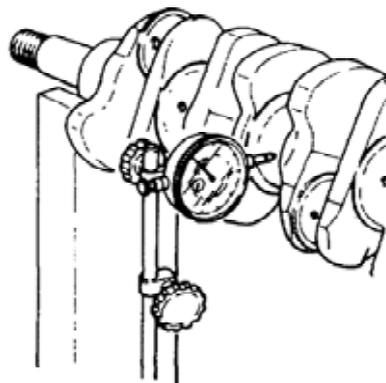

Figure 25 Measuring the Crankshaft Run-out
- n.** Check the crankshaft for bend or run-out using a dial indicator positioned on the centre main bearing journal with the crankshaft cradled between V-blocks (Figure 25). The crankshaft should be supported on the main bearing journals at each end. Ensure that bearing journal wear is taken into consideration when measuring the run-out. Standard run-out is 0.05 mm (0.002 in) or less and the limit is 0.40 mm (0.016 in). If the run-out exceeds the limit, replace the crankshaft.